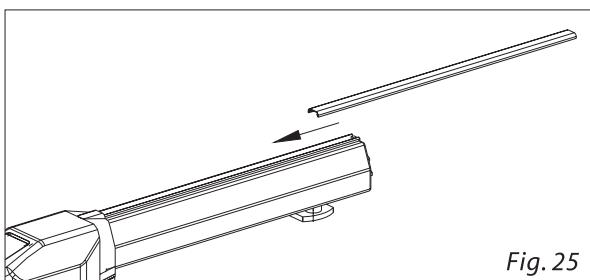
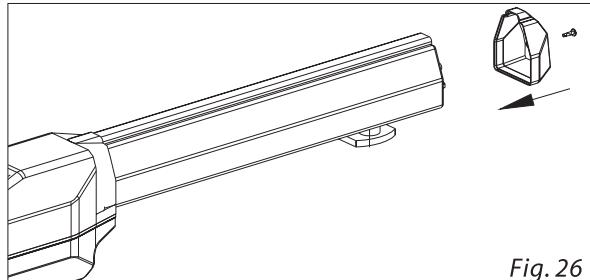

Fig. 25
Fig. 26
- 6) After the limit switch positioned, insert the cover and install the front cap. (Fig. 25 & Fig. 26).